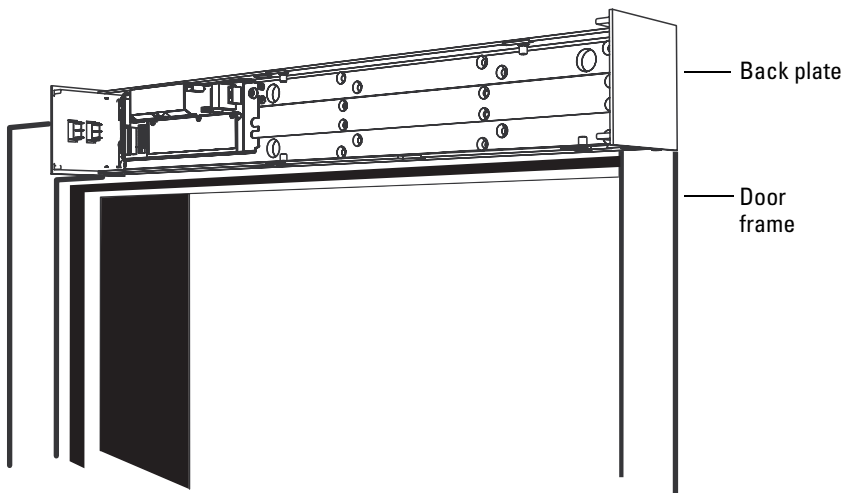

Figure 1.14 Mounting the back plate to the frame
13. Mount back plate to the door frame using at least six 1/4-20 screws. See Figure 1.14 on page 1-14.